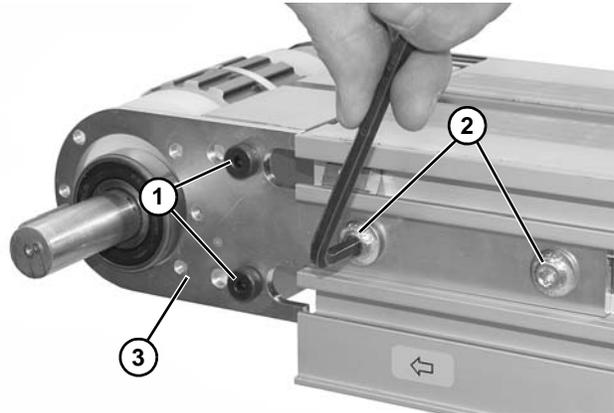

Figure 44
5. Remove two socket head screws (Figure 44, item 1)
6. Remove tail clamp bolts (Figure 44, item 2) and remove headplate (Figure 44, item 3).